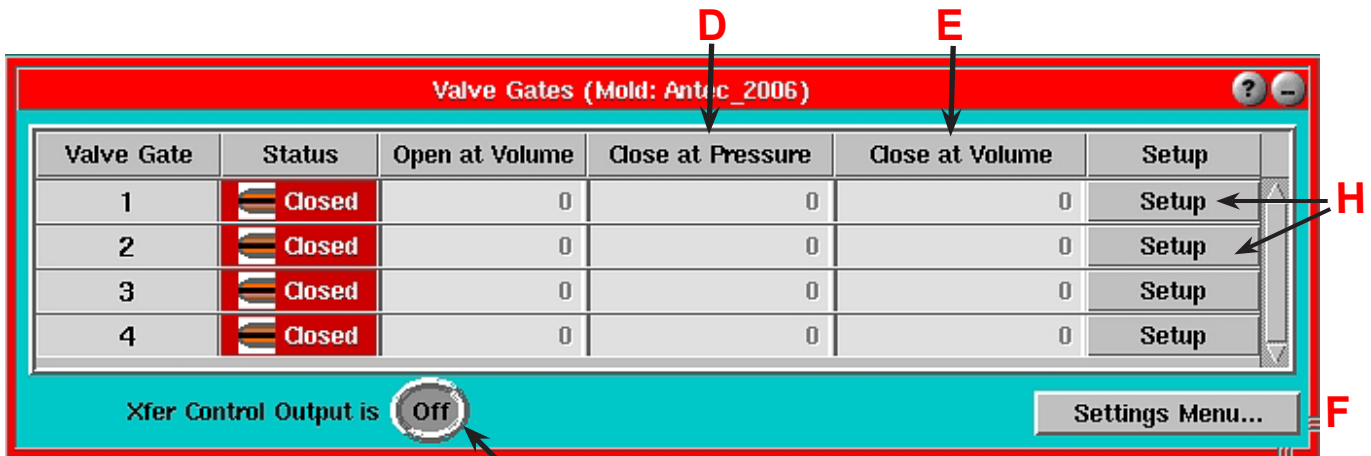

Figure 13a: Valve Gates Control Tool
- I. **Valve Gate Open Control:** To bring up this screen, select Valve Open Control from the Setup see “H” in figure 13a page 12. Here you can choose when the selected valve gate should open. Note that you can select more than one option or none if you want to keep a cavity closed during process setup.